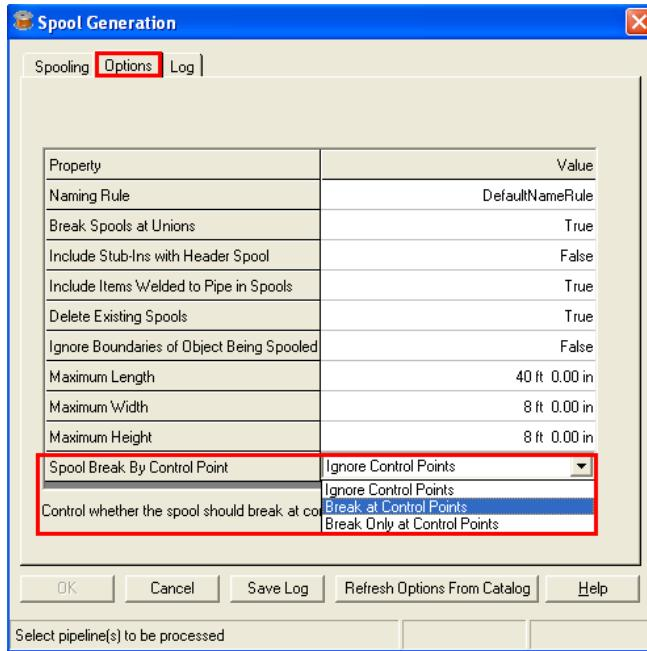

Figure 16. 27: Defining Options in the Spool Generation Dialog Box
8. On the **Options** tab in the **Spool Generation** dialog box, select the **Break at Control Points** option in the **Spool Break By Control Point** drop-down list, as shown in Figure 16. 27.